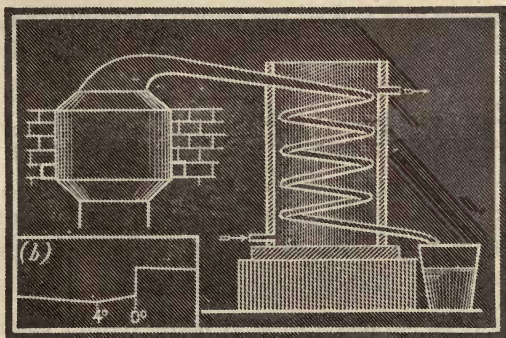

Fig. 19.—Retort, or "still," and condenser. Plot b—Effect of "cold" upon water.
The law of physics, that "heat expands and cold contracts," does not hold with water in cooling from about 4° (C) to 0° , through which space it steadily expands, until it freezes (crystallizes) at 0° . At the moment of freezing there is a sudden and great expansion. (See Plot b, Fig. 19.) The importance of this exception cannot be overestimated, for it makes *ice lighter than water*, and so prevents lakes and rivers from freezing solid.
Water containing impurities in solution may be purified by **distillation**. The water is placed in a **retort**, or "**still**," is heated, rises as steam (at 100°), which, passing through the **condenser** (supplied with cold water in direction of arrows, Fig. 19), condenses, and is collected in a receiver. Steam ("**dry steam**") is an invisible gas. That which is seen and often miscalled steam is steam condensed (or partially condensed) into minute globules